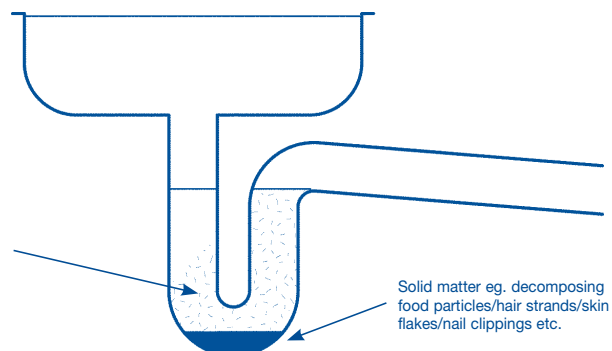

Figure 1. Water held in conventional traps can become stagnant.
- ⦿ HepvO® differs from conventional traps, which can dry out or hold water which can become stagnant causing the emission of smells and enhancing bacterial growth – see Figure 1 below.